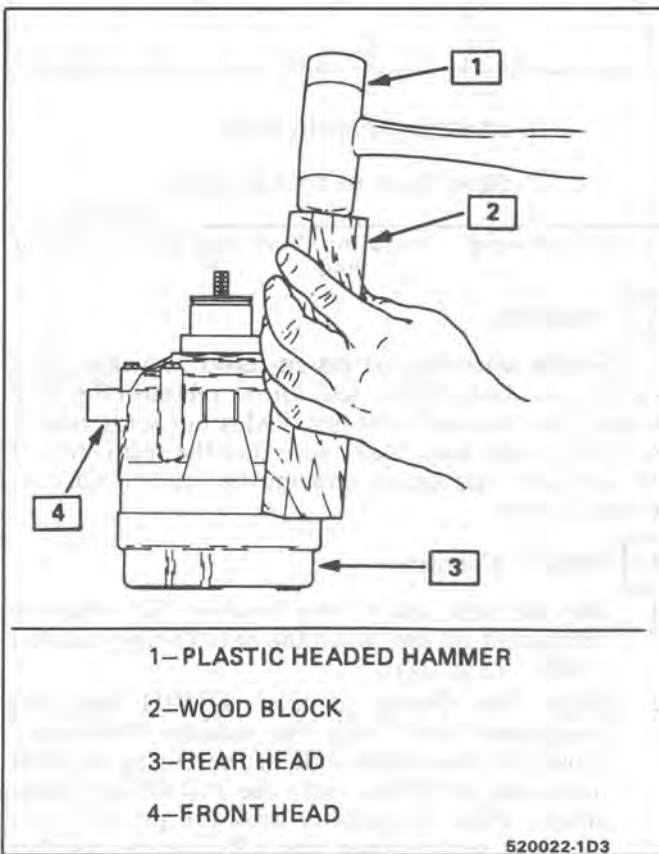

Fig. 29 Tapping Front or Rear Head Free of Cylinder
3. Remove the six (6) compressor through bolts and gaskets. Discard the gaskets.
4. Using a wood block and plastic headed hammer, tap around the edge of the rear head to disengage head from the compressor cylinder (Fig. 29).
1. Rest the rear head on support block J-35372. Install one (1) assembly guide pin J-34993 through 11 o'clock hole. Locat
9. Add new through bolt gasket to the through bolts and install the bolts into the compressor assembly (Figure 29). Be sure four (4) of the through bolts thread into the rear head before removing the guide pins. Alternately tighten the through bolts in progressive torque until a torque of 8-10 N·m (72-84 in. lbs.) is achieved on all six (6) bolts.